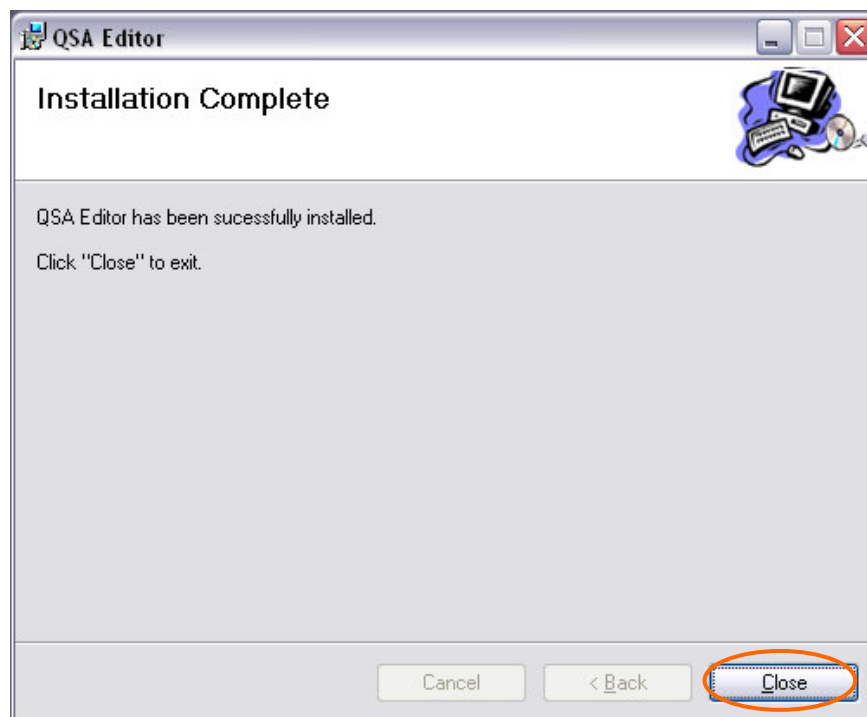

Figure 50 – Installation Complete
- Select menu option "File" and then "Open". You will see popup form "Open Survey" on your screen (figure 50).